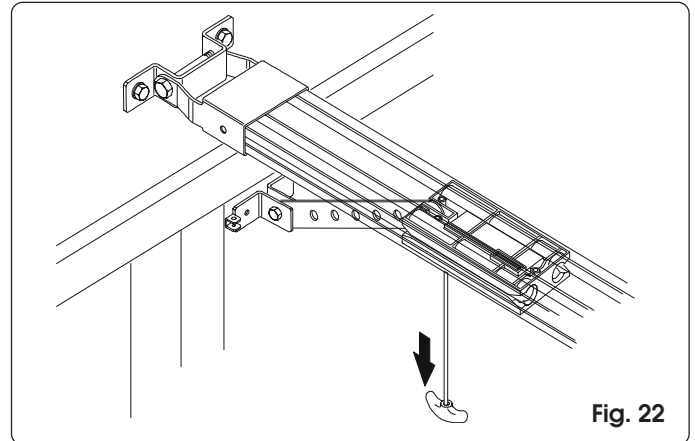

Fig. 22
- 3) Pull the release lever downwards and make sure the door can be moved manually (fig. 22).